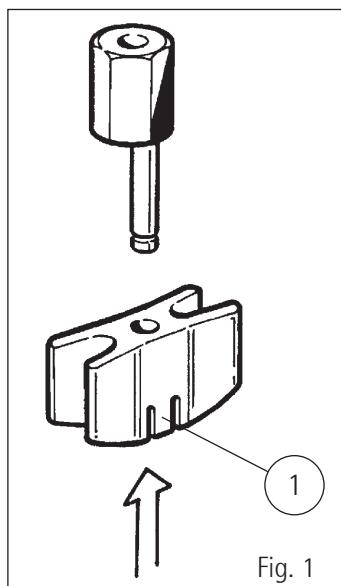

Fig. 1
The shoe on the retaining pin is mounted with slight pressure until the proper tongues fit inside the groove (Fig. 1). For the disassembling it is sufficient to push it from the rear side and at the same time with a small screw-driver to, part the tongues (1) one after the other.